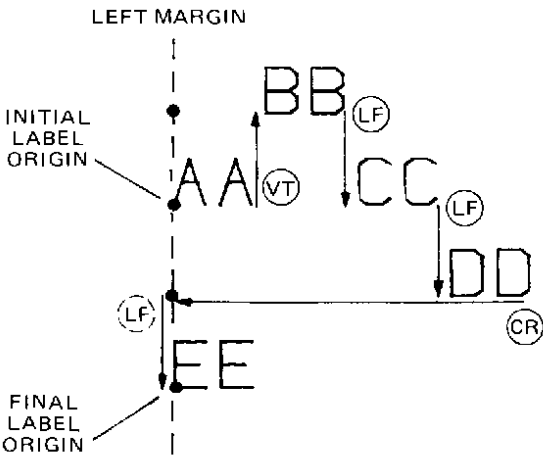

Figure 5-15. The Label Origin and Left Margin
**Result** (Refer to Figure 5-15)